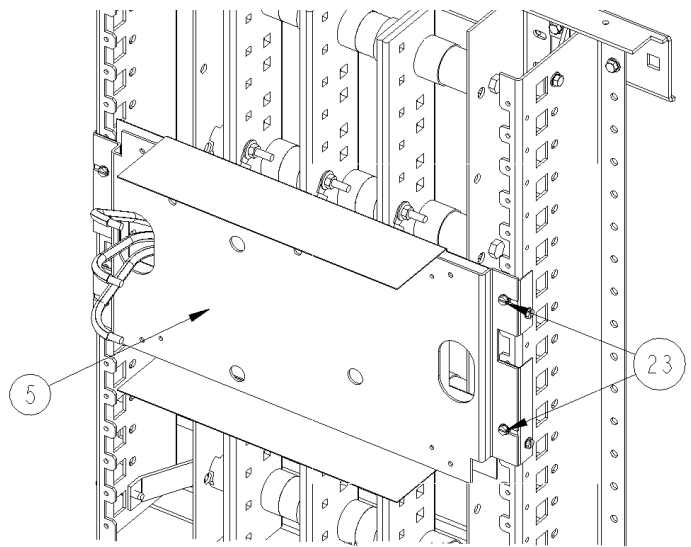

Figure 8. Mounting plate installation.
4. Mounting plate. Route the cable assemblies through the oblong slot in the mounting plate [5]. Secure the mounting plate to the interior “Z” rail with 10-32 x 7/16” thread-forming screws [23], as shown in Figure 8 and tighten to 22 in-lb.